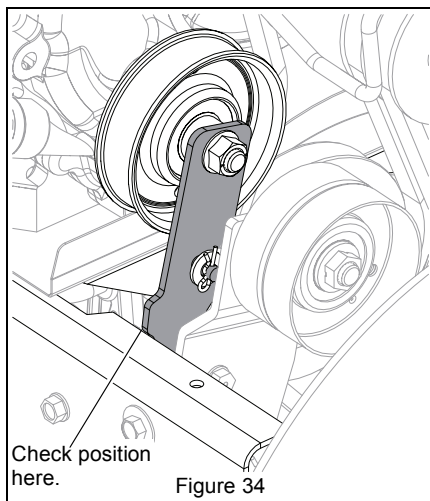

Figure 34
5. With the traction clutch disengaged, make sure auger idler arm lightly touches the frame. See Figure 34.